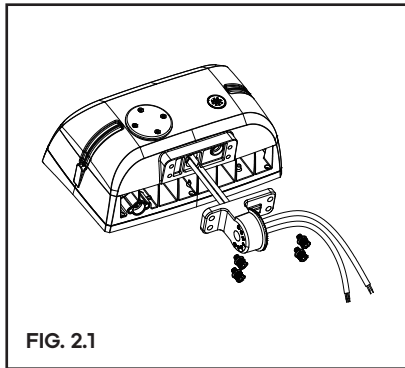

FIG. 2.1
Step 2: Pass the rubber wire through the mounting head of the bracket and secure it with an inner hexagon screw. (Figure 2.1)
(Watch out not to scratch the wire). (Figure 2.1)